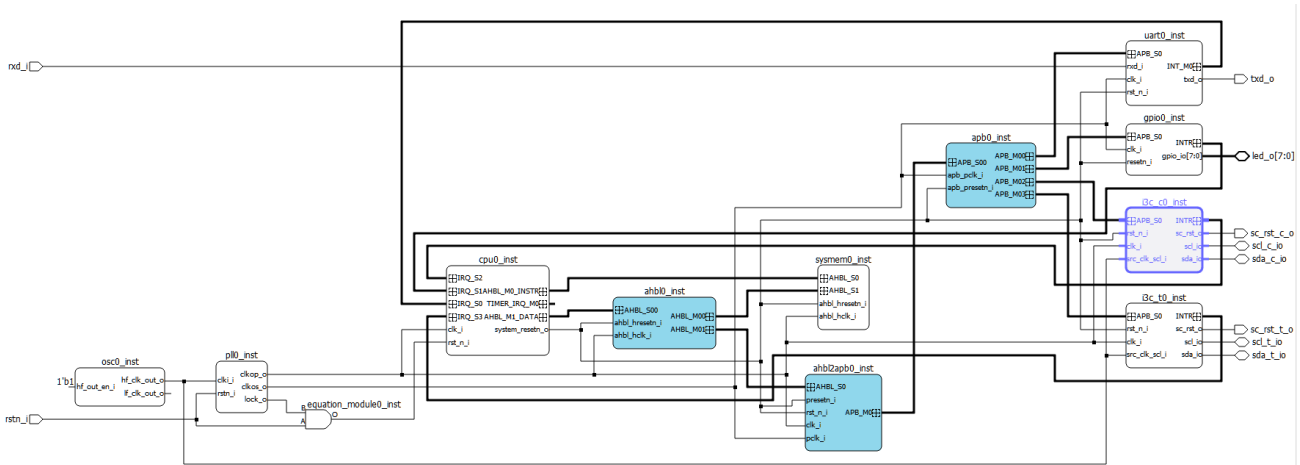

Figure 6.1. I3C Controller IP in Propel SoC Project
I3C Controller and I3C Target (Secondary Controller) are instantiated and connected in the project as shown in Figure 6.1. In this example, I3C Controller and I3C Target (Secondary Controller) are instantiated in the same system. In actual hardware or use case, you can connect the I3C Controller to external I3C/I2C Target or Secondary Controller devices.
- Connect the instantiated IPs to the system. Refer to Figure 6.1 for the connections used in this IP. You will need to update other components of the system for clock and reset sources, interrupt, and bus interface.